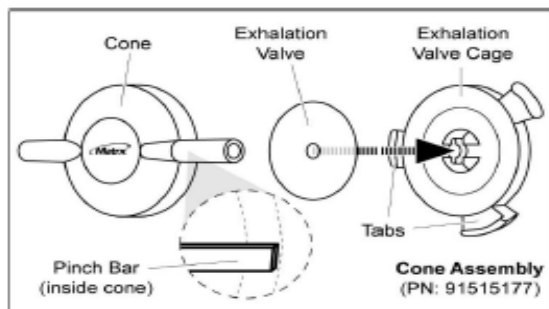

Figure 7. Assembling the Cone
4. Wash the scavenging cone system with a mild alkali detergent. Run a soft bristle brush around the inside of the cone to remove any debris. If necessary, you can detach the cone from the cage by bending the pinch bar back and turning clockwise (see Figure 7).
1. Attach the exhalation valve to the exhalation valve cage (see Figure 7).